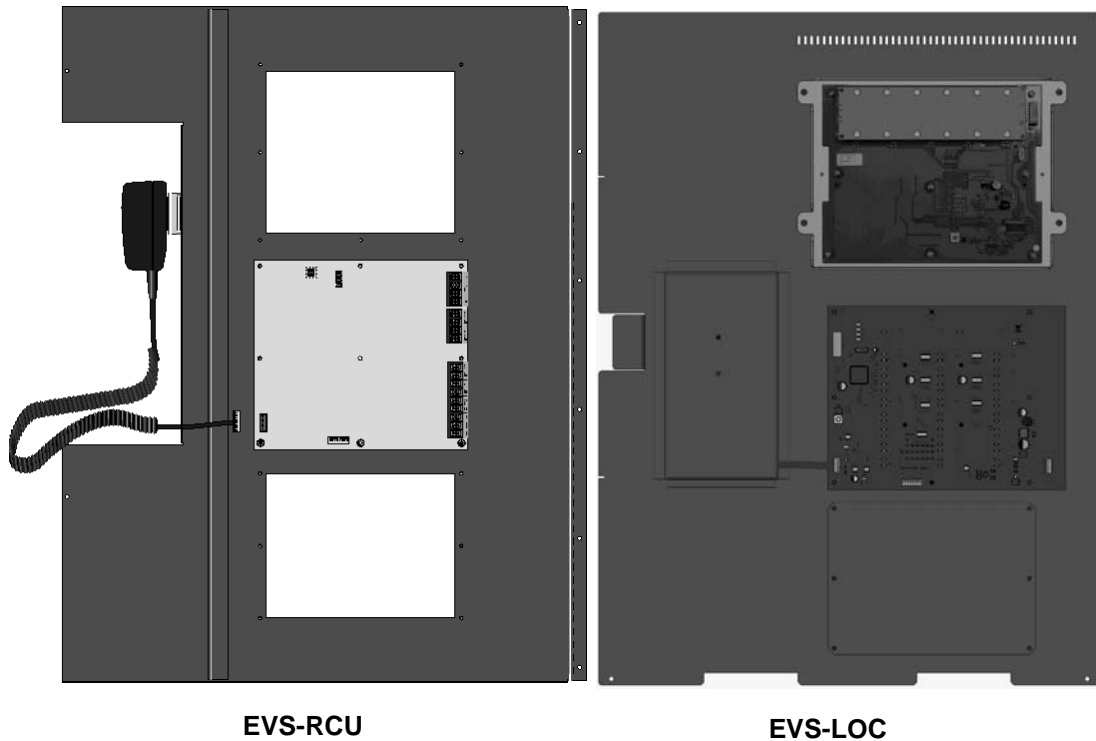

Figure 4-7 Back View of Dead Front Panel
4. Unplug the Microphone from the microphone connector. See Figure 4-7.